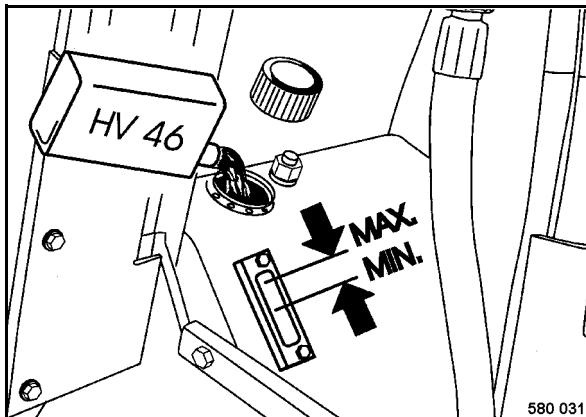

Fig. 98
- Check the oil level in the inspection glass (Fig. 98) on the hydraulic oil tank.